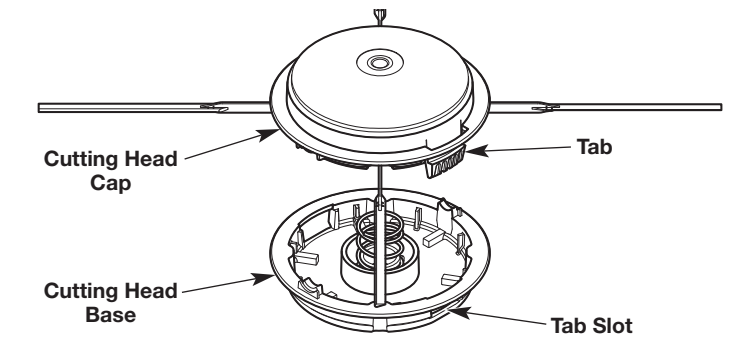

Fig. 29
1. Disconnect the cutting head cap from the cutting head base: Firmly press a tab on the cutting head cap (Fig. 29). Use your thumb. If necessary, use a flat-head screwdriver:
- c. While holding the screwdriver in place, gently twist the screwdriver to unlock the tab from the tab slot (Fig. 29).
7. Align the tabs on the cutting head cap with the tab slots on the cutting head base (Fig. 29). Push the cutting head cap onto the cutting head base until both tabs snap into place.